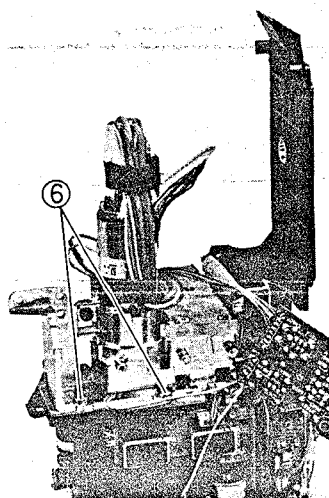

Fig. 2-126 Lens Block Removal
6. Remove three (3) screws holding the lens block. (See Figs. 2-126, 2-127, 2-128)